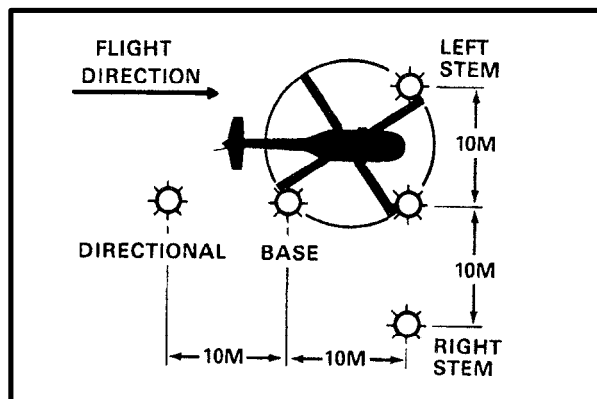

Figure 4-12. "T" Light Formation
**f. The "T" Light Formation.** The "T" light formation is set up using five lights placed according to Figure 4-12. The cargo is positioned 5 meters to the left of the base light and midway between the base light and stem light. The lead aircraft lands to the left of the base light and just short of the stem lights.